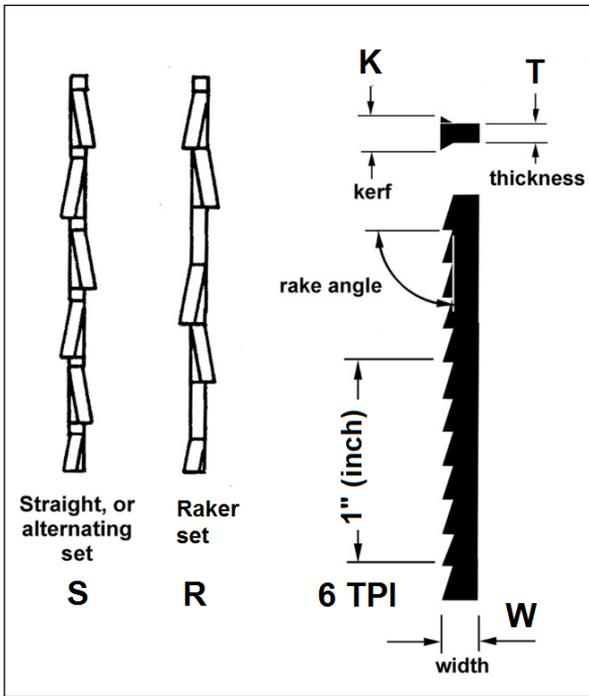
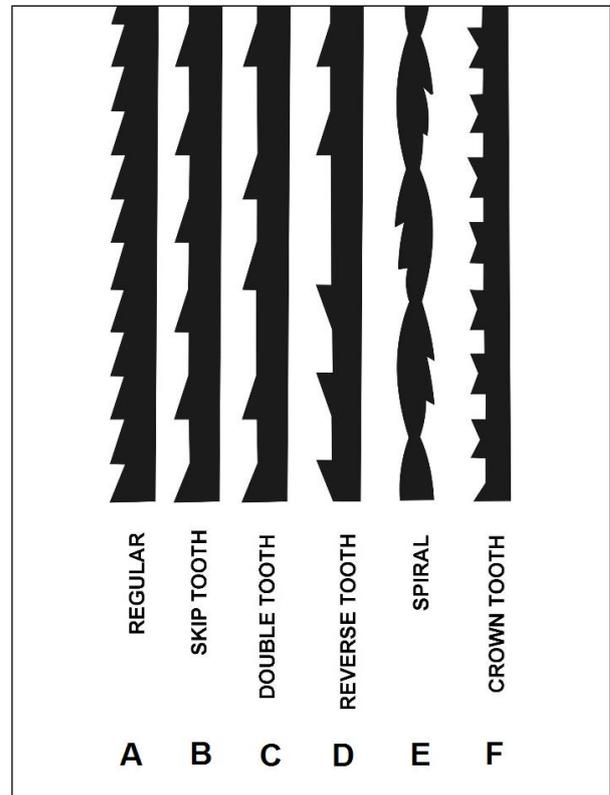

Fig 29
Fig 30
**These factors are important (Fig 29, Fig 30)**
Tooth form (Fig 30) has an effect on cutting rate.